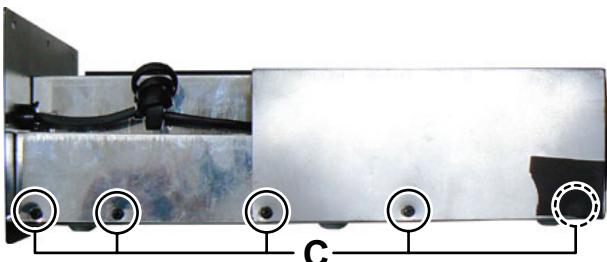

Fig.4
#### 3.2.2 Removing the Power cover and Amp cover (See Fig.4, 5, 6, 7)
(1) Remove the five screws **C** attaching the Cover. (See Fig.4)